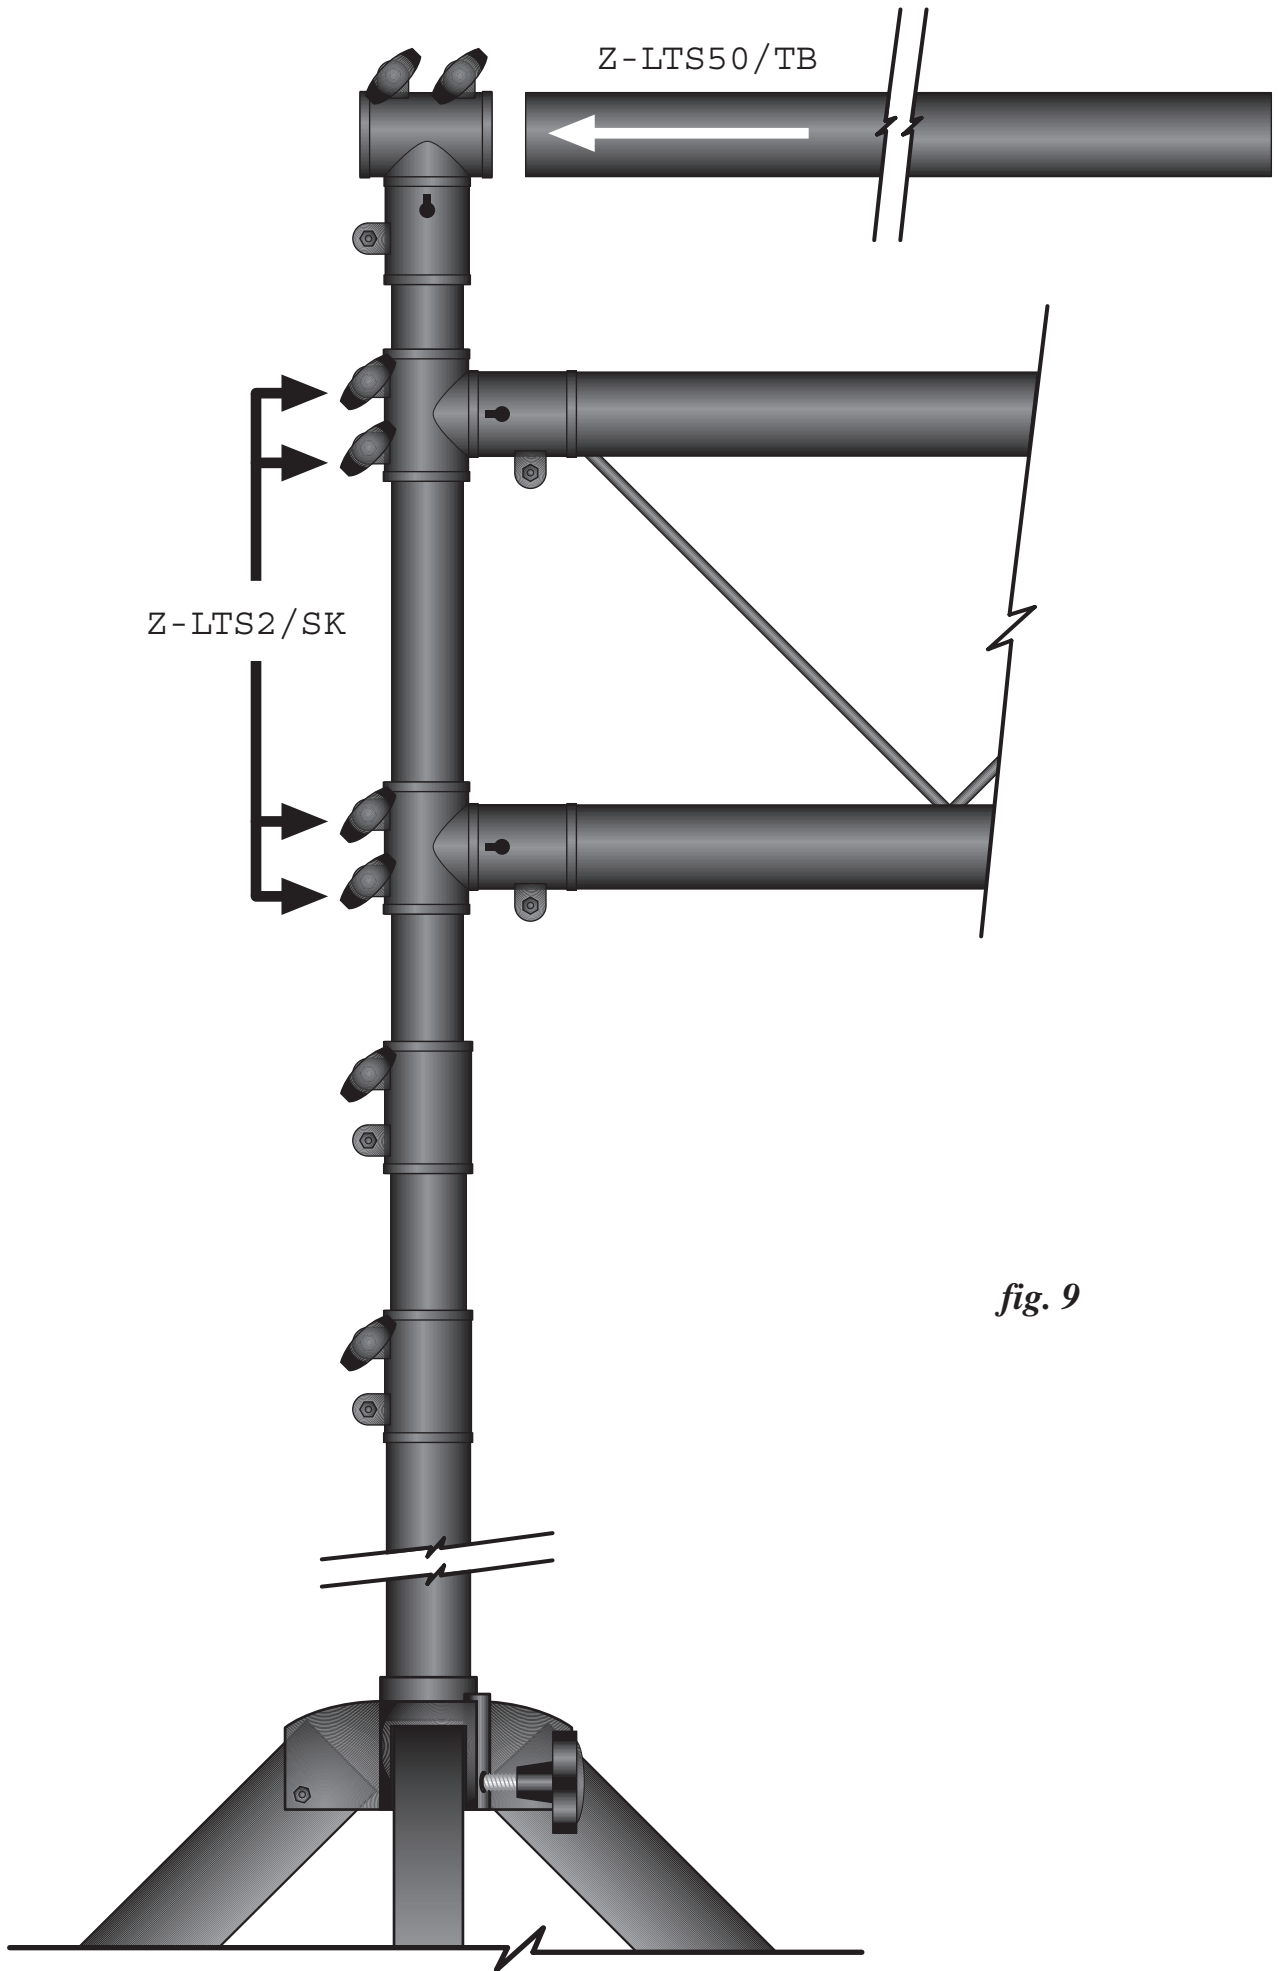

*fig. 4*
4. Slide the center support bar assembly onto the I-beam with attached connectors. (See Fig. 4)